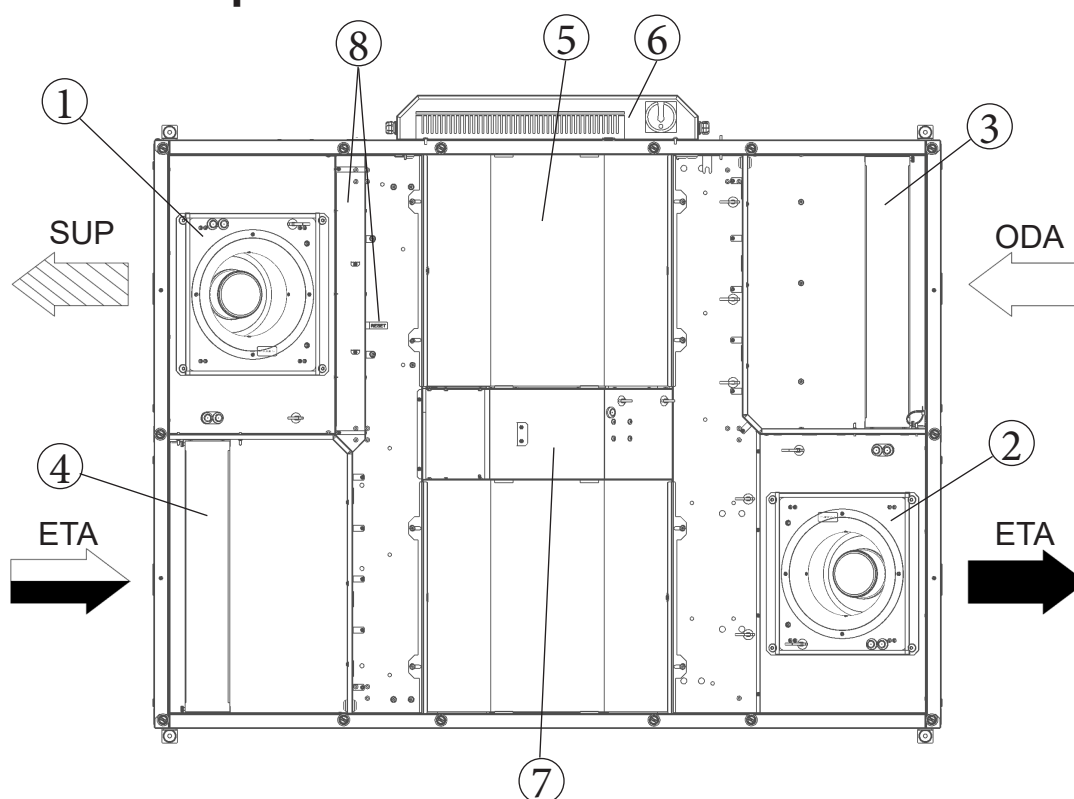

Fig. 1 Connections and basic components
A pressure guard measures the differential pressure over the supply and extract air filters (pos. 10 figure 1). When the pressure drop reaches the set value an alarm is triggered in the main regulator. The differential pressure can be set between 40 and 300 Pa. The pressure switch is preset from factory to 240 Pa.
In units with built in electrical heater the heating rods are located before the supply air fan in the airflow direction. The electrical heating battery has both automatic and manual overheating protection. The manual overheat protection is reset by pushing the reset button on top of the electrical heater frame (pos. 8 figure 1). The power demand of the electric heating coil is controlled by the main regulator, which controls the heat steplessly by a SSR relay control according to the selected control function that is set in the control panel.